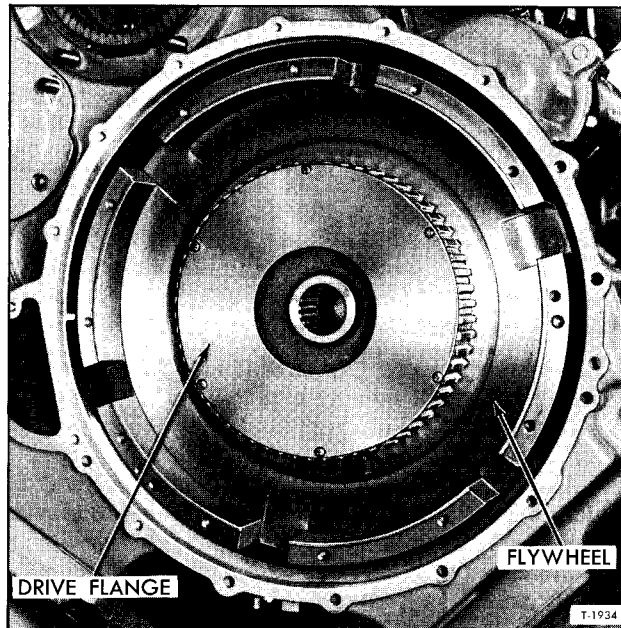

Figure 6—Clutch Drive Flange Installed
1. Install drive flange (32) hub in flywheel bushing as illustrated in figure 6.